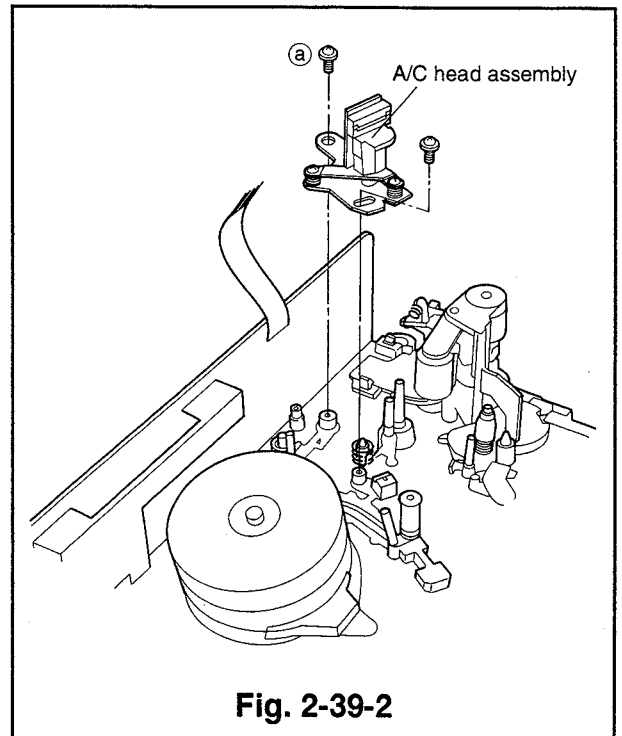

Fig. 2-39-2
- ② Remove the two screws (a) and (b) holding the A/C head assembly to the main plate, and to remove the A/C head assembly. (Refer to Fig. 2-39-2.)
- ② Place the A/C head assembly in the position shown in Fig. 2-39-2 and secure it with the two screws(Ⓐ and Ⓑ).